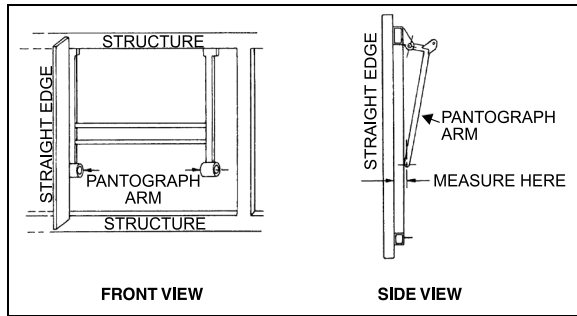
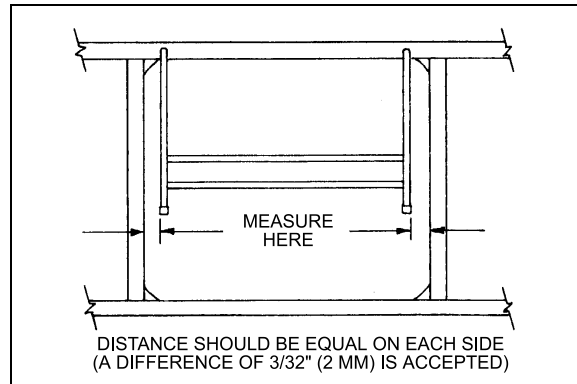

FIGURE 79: PANTOGRAPH DOOR ADJUSTMENT 18062
FIGURE 80: PANTOGRAPH DOOR ADJUSTMENT 18063
Measure distance between a pantograph arm end and a straight edge resting on structure. Repeat procedure for the other arm. The distance on each side should be equal. If not, bend appropriate arm until desired measure is obtained (Figure 79 & Figure 80).
5. When the door is straight, remove the 2x4's and check door operation and fit. A difference of  $3/32$ " (2mm) between both sides is accepted (Figure 80).